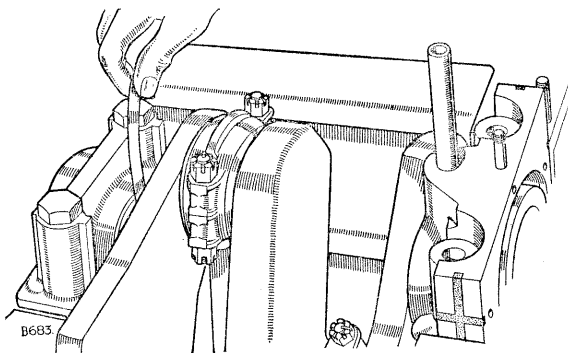

Fig. A-17—Checking crankshaft end-float
4. Check the crankshaft end-float with a feeler gauge (Fig. A-17); adjust at centre bearing by selective assembly of thrust washers to give .002 to .006 in. (0,05 to 0,15 mm) end-float.